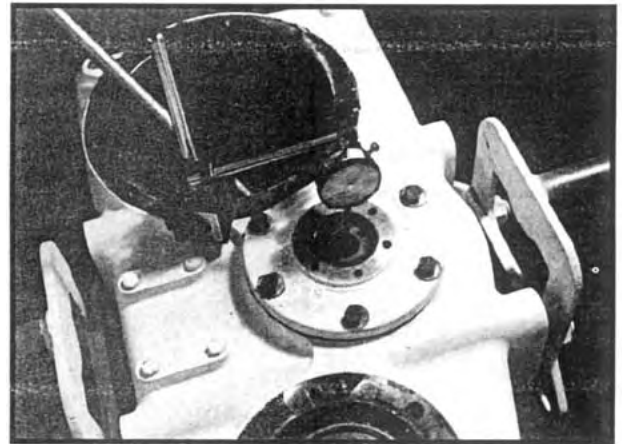

Fig 55
6. Place the bearing cup into its bore. Install the rear cap with the original shim pack. Install the (6) cap screws and washers. Torque to specification.
7. If the unit is equipped with a lubrication pump, mount a dial indicator such that the indicator tip rests against the end of the shaft. See Figure 55.